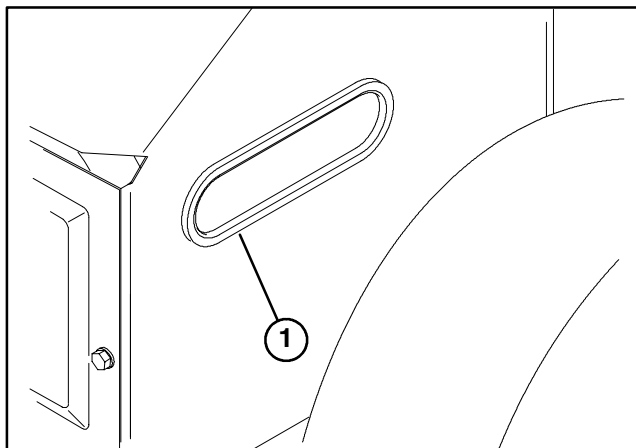

Figure 3
1. Remove (3) screws securing side panel from left side of machine and remove panel (Fig. 3).
2. Through slot in left panel, remove (2) wing nuts and washers securing top battery hold down to side battery hold downs. Remove top battery hold and slide battery forward to remove.